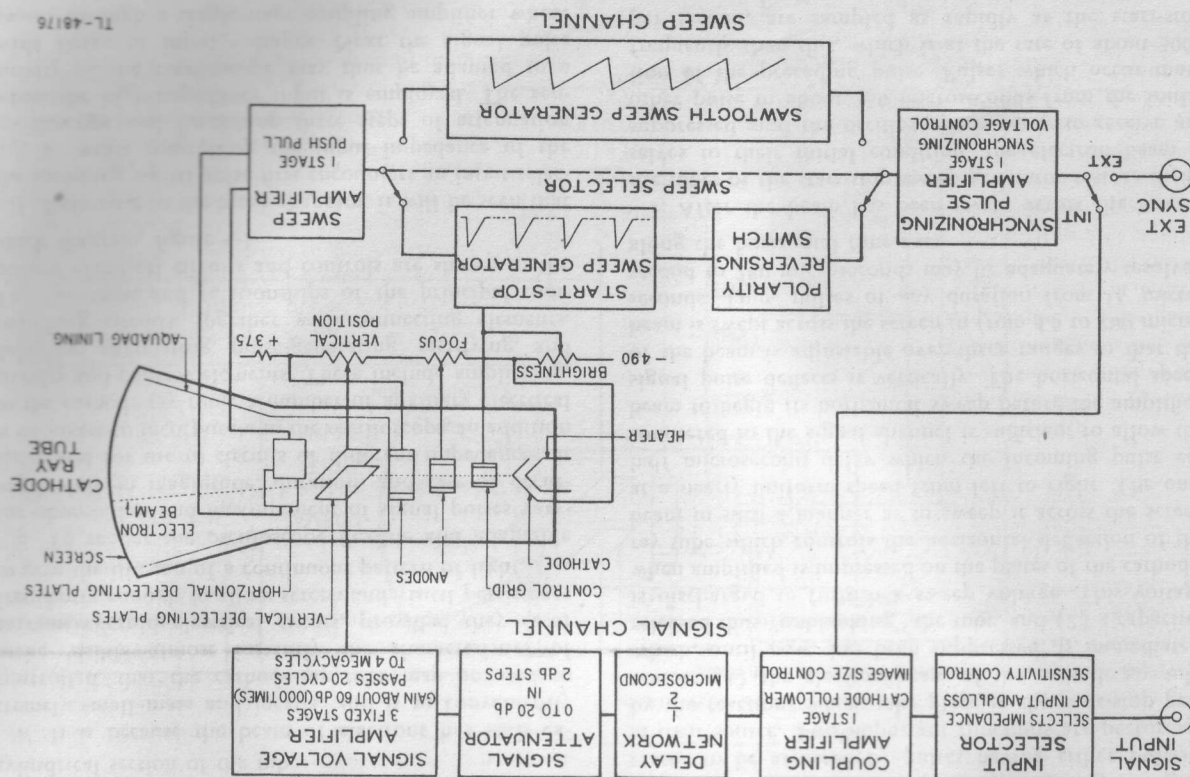

Figure 4-1. Block Diagram Showing Function and Relation of Oscilloscope Components—TS-34A/AP
a. The cathode-ray tube shown schematically in the block diagram, figure 4-1, is the heart of the oscilloscope
e. To render the oscilloscope flexible and adaptable for observation and measurement of signal pulses varying widely in magnitude, duration, and rate of occurrence and for use in circuits of different impedances, it is necessary to incorporate in the oscilloscope, in addition to the cathode-ray tube, a number of auxiliary electrical circuits and control elements. These include amplifying, delaying, attenuating, pulse-generating, rectifying, and switching circuits, together with connecting elements. The functions and relationships of the principal component electrical circuits and controls are shown in the block diagram, figure 4-1.